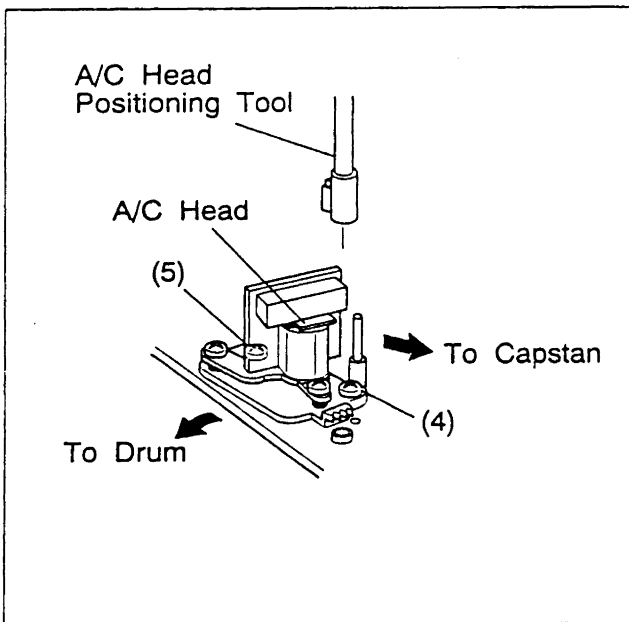

Fig. 2-7-6
- (1) Connect the oscilloscope to TP6(PB FM) on the PRE/ REC board. Use TP11(D.FF) on the PRE/REC board as a trigger.
- (2) Playback the SP stairstep portion of the alignment tape [MHPE].
- (3) Set the neutral manual tracking position by pressing the **///** button on the remote controller or TV PROG **⏮** and **⏭** buttons simultaneously.
- (4) If adjustment is required, slightly loosen screws (4) and (5). Set A/C head positioning tool on the A/C head adjusting boss as indicated in Fig.2-7-6.